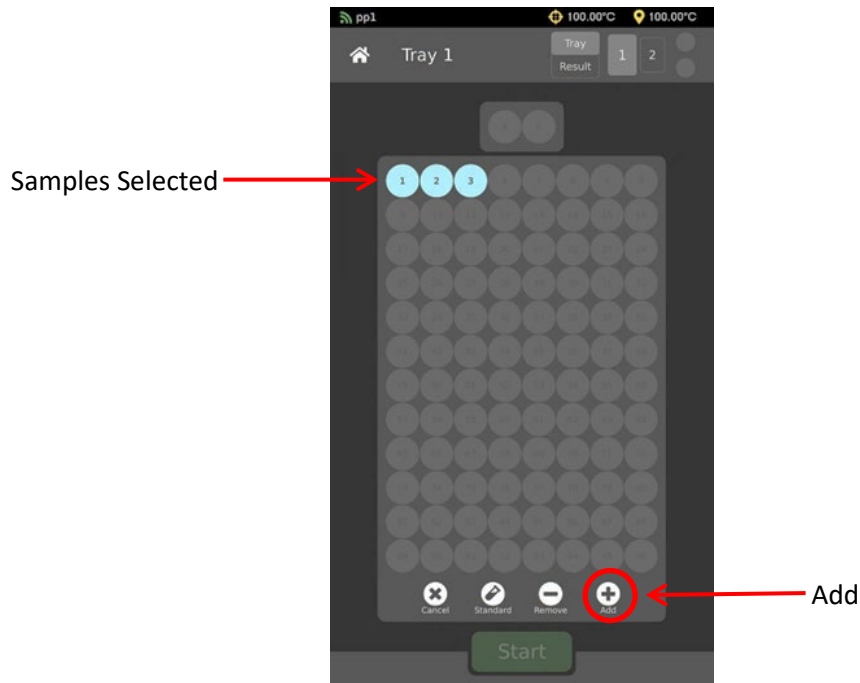

Figure 37: Add Sample Group
1. Enter the first group of samples to be tested by highlighting the circles on screen that correspond with the location of those samples in the tray. Touch again to deselect. Once all samples for one group are highlighted, select **Add**. See Figure 37.